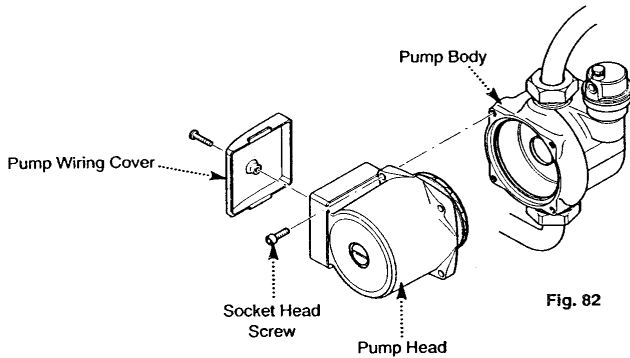

Fig. 82
**11.20 Pump - Head Only (Figs. 82 & 83).**